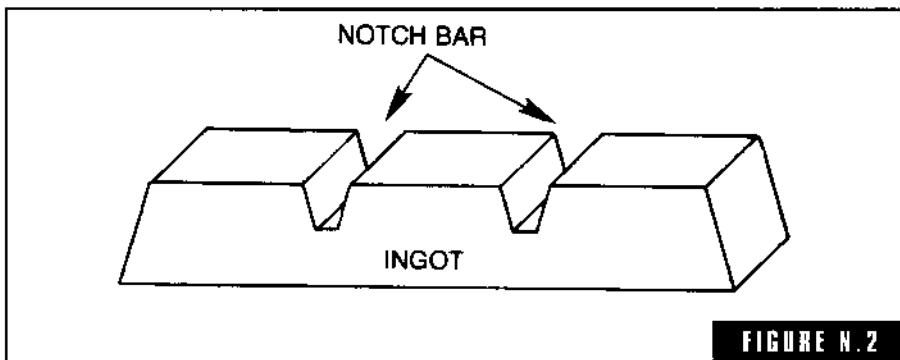

FIGURE N.2
**notch bar** Small-size ingots with notches to facilitate breakage (Fig. N-2).